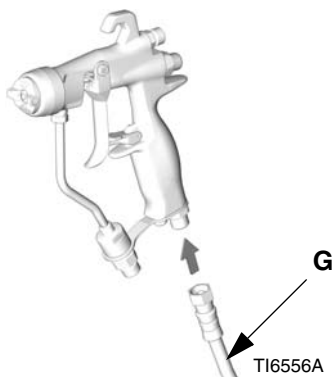

FIG. 2
2. Install an air pressure regulator (C) on the gun air line to control air pressure to the gun.
3. Install an air shutoff valve (B) on the gun air line and on the pump air line, to shut off air to the gun.
5. Connect the air hose (G) to the 1/4 npsm gun air inlet. See FIG. 2.